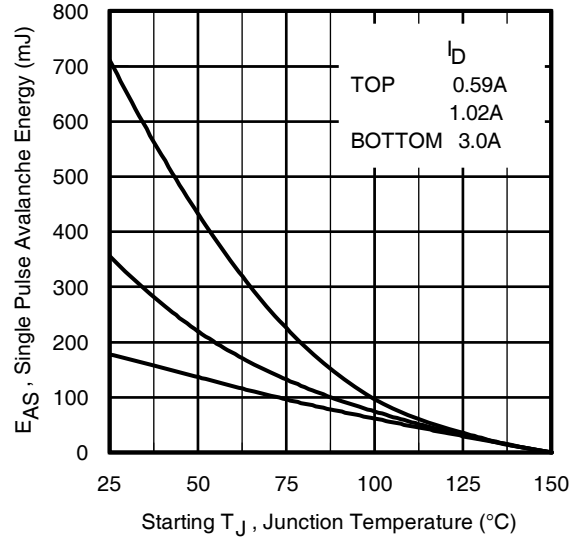

Fig 13. Maximum Avalanche Energy vs. Drain Current
- ② Starting $T_J = 25^\circ\text{C}$, $L = 40\text{mH}$, $R_G = 25\Omega$, $I_{AS} = 3.0A$. (See Figure 13).
- ③ $I_{SD} = 6.0A$, $di/dt \leq 416A/\mu s$, $V_{DD} V_{(BR)DSS}$, $T_J \leq 150^\circ\text{C}$.
- ④ Pulse width $\leq 300\mu s$; duty cycle $\leq 2\%$.
- ⑤ $C_{oss \text{ eff.}}$ is a fixed capacitance that gives the same charging time as C_{oss} while V_{DS} is rising from 0 to 80% V_{DSS} . $C_{oss \text{ eff. (ER)}}$ is a fixed capacitance that stores the same energy as C_{oss} while V_{DS} is rising from 0 to 80% V_{DSS} .
- ⑥ R_{θ} is measured at T_J approximately 90°C
- ⑦ When mounted on 1" square PCB (FR-4 or G-10 Material). For recommended footprint and soldering techniques refer to application note # AN-994 techniques refer to application note #AN-994.